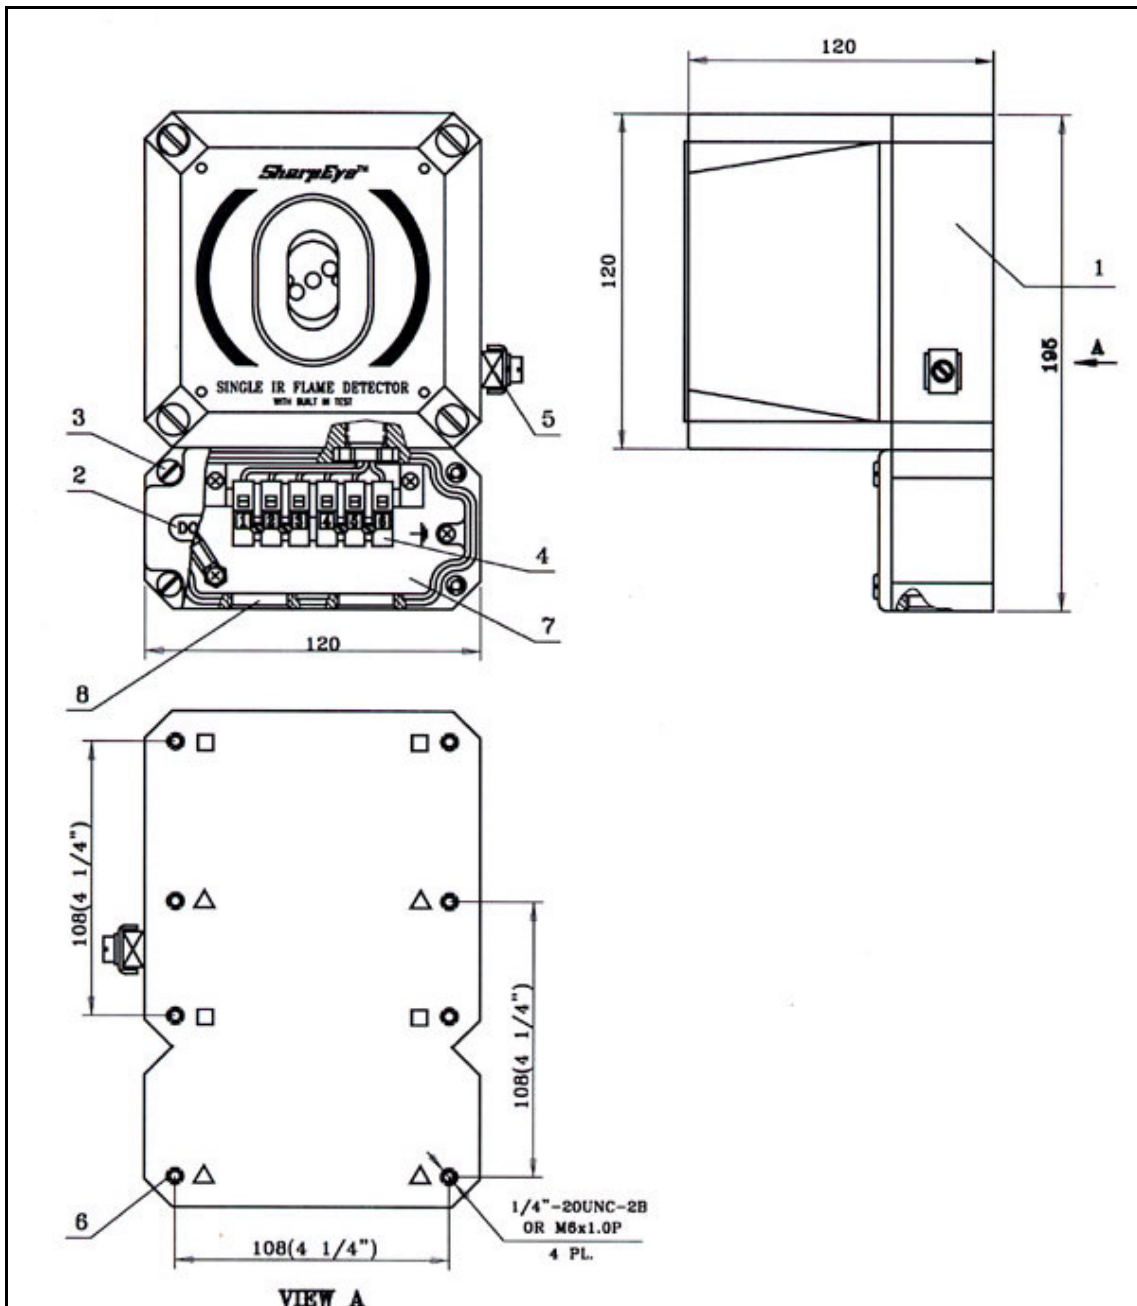

Figure 18: Flame Detector Assembly - Wiring Diagram
The EExde approved version provides an additional EExe terminal box attached below the EExd detector and therefore allows easier access for wiring in difficult environments and hazardous areas (see fig. 18). The unit is prewired to the terminals in the additional EExe terminal section ready for field wiring connections
- 3 Place the detector, with its conduit inlets pointing down, on the holding plate of the swivel mount (Fig. 8 item 7). Secure the detector by four (4) M6 screws with M6 spring washers from the Swivel Mount Kit using the holes (Fig. 9 item 5). You can use the thread on the modified cover (Fig. 18 item 1) marked either triangle symbol or square symbol. Use No. 5 Hex Key for M6 screws.
**2. WIRING (REFER TO FIG. 18.)**
- 2 Release the four (4) slotted-head screws (item 3) that secure the chamber cover (Item 2). The chamber is now revealed.